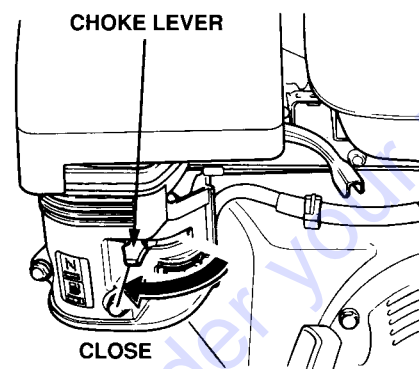

Figure 41. Choke Lever Closed
6. If the engine has started, slowly return the choke lever (Figure 41) to the **CLOSED** position. If the engine has not started repeat steps 1 through 5.